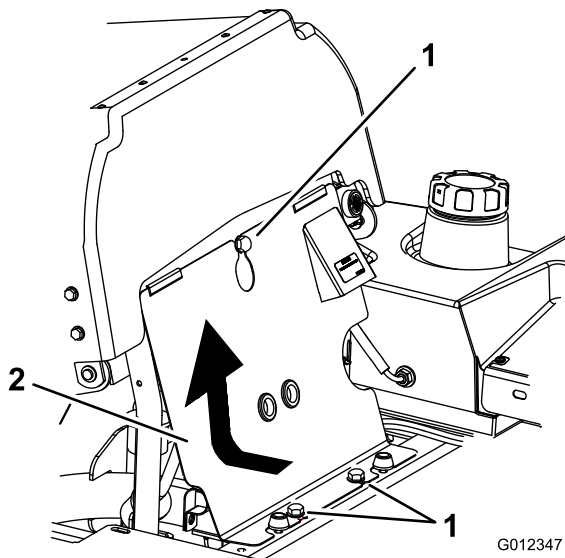

Figure 72
3. Tilt the seat forward, loosen the bolts and remove the front engine panel (Figure 72).